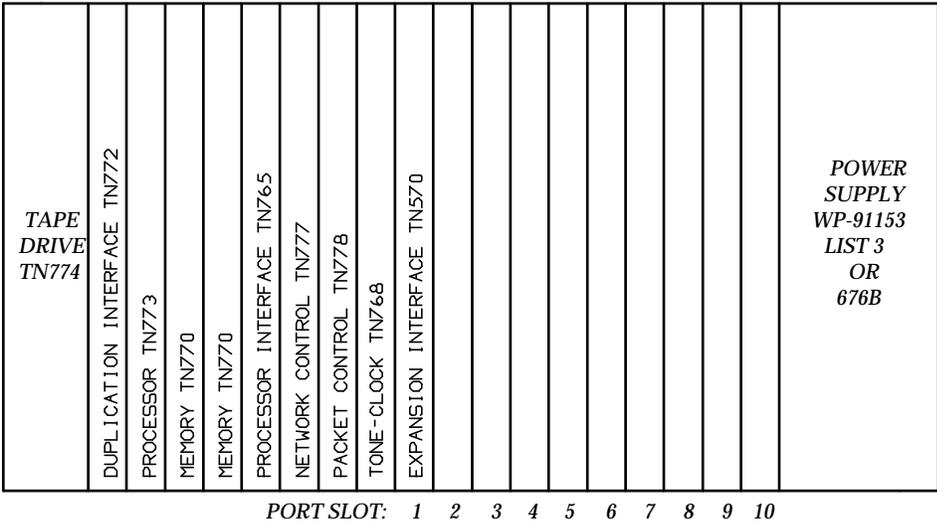

FIGURE 6-3. TN770 Location in J58890M Cabinet
- 3. See WARNING. At the J58890M-1 control cabinet, install the second TN770 memory circuit pack in the spare slot on the right side of the existing TN770 Memory circuit pack (see Figure 6-3).